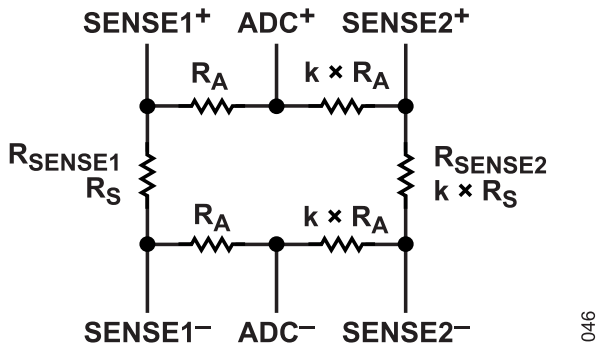

Figure 47. Weighted Averaging Current Sense Voltages
dividers. Some applications can use parallel sense resistors to achieve a specific resistance, in which case, the averaging resistors can be selected with the same ratio as the sense resistors they connect to, which allows the ADC to still measure current accurately (see Figure 47). In this case, the effective ADC sense resistor is R_S in parallel with $k \times R_S$ for the current limit. Scaling the averaging resistors, R_A , by the same scaling factor, k , allows the ADC to measure the correct sense voltage for this effective sense resistor. The smallest averaging resistor on the ADC+ or SENSE+ side must not exceed 1 Ω .
- Configure current limit and select current-sense resistors. A 18 mV sense voltage with a 0.5 mΩ sense resistance is picked to provide 36 A for each channel. When a specific design is actually built, there can be small inaccuracies in the current sensing owing to contact and copper trace resistances. An immediate remedy without changing sense resistors is to readjust the sense voltage in 2 mV steps. For instance, moving sense voltage from 18 mV to 20 mV gives a 11% increase in current. Some designers can use parallel-sense resistors to achieve a specific resistance. In which case, the averaging resistors, R_A , must be selected with the same ratio, k , as the sense resistors they connect to (see Figure 47), which allows the current-limit circuit to measure the correct sense voltage for this effective sense resistor. The smallest averaging resistor must not exceed 1 Ω.